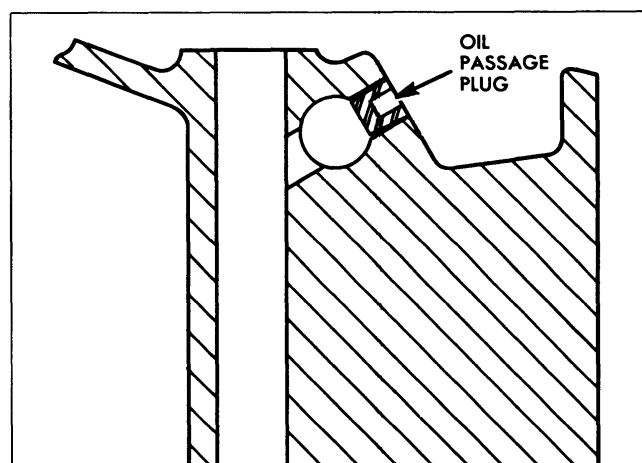

Fig. 6-34 Cylinder Head Oil Passage Plug
16. Replace plugs in ends of oil gallery (Fig. 6-34).
1. Inspect valves and seats to determine condition before cleaning. Also check oil and water passage plugs for evidence of leakage (Fig. 6-34).
c. Check oil passages from oil gallery through rocker arm studs. A simple test can be made using a rubber hose and smoke. Block lower end of cylinder head screw hole which feeds oil gallery (Fig. 6-34) and blow smoke in top end of hole through rubber hose. Smoke should come out hole in each stud.